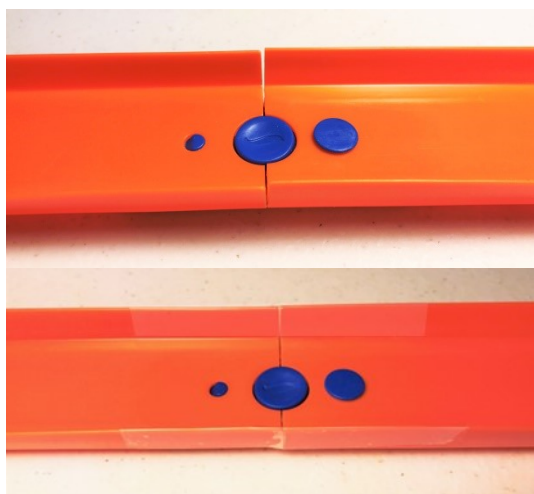

Fig. 2: Connect the two Hot Wheels track sections. Then tape the two edges on each side of the track.
2. Use 2 strips of Scotch tape to tape the sides of each track together (see Fig. 2). Fold each piece of tape over the edge of the track so it holds it together on the inside and outside edges. Smooth it down so no tape sticks out into the path of the car. The reason for the tape is to keep the edges together so the car can roll past without bumping into them.